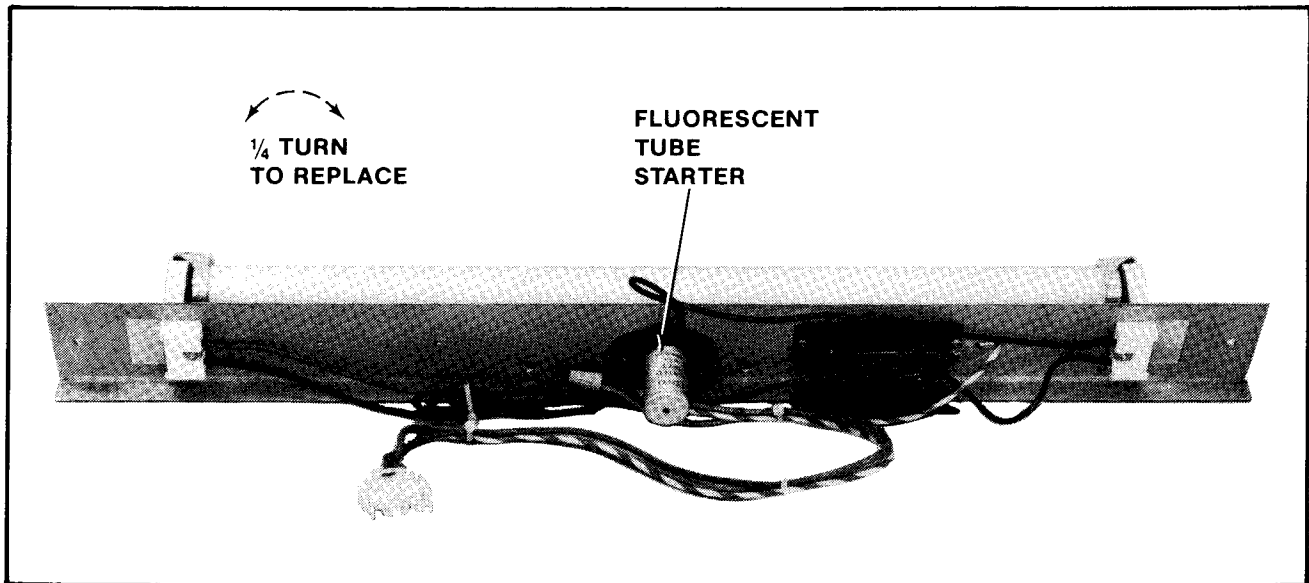

Figure 21 Replacing fluorescent starter — Upright game
**WARNING: If you drop a fluorescent tube and it breaks, IT WILL IMplode! Shattered glass can fly six (6) feet or more from the implosion. Use care when replacing any fluorescent tube.**
- Replacing the fluorescent tube starter. See Figure 21.